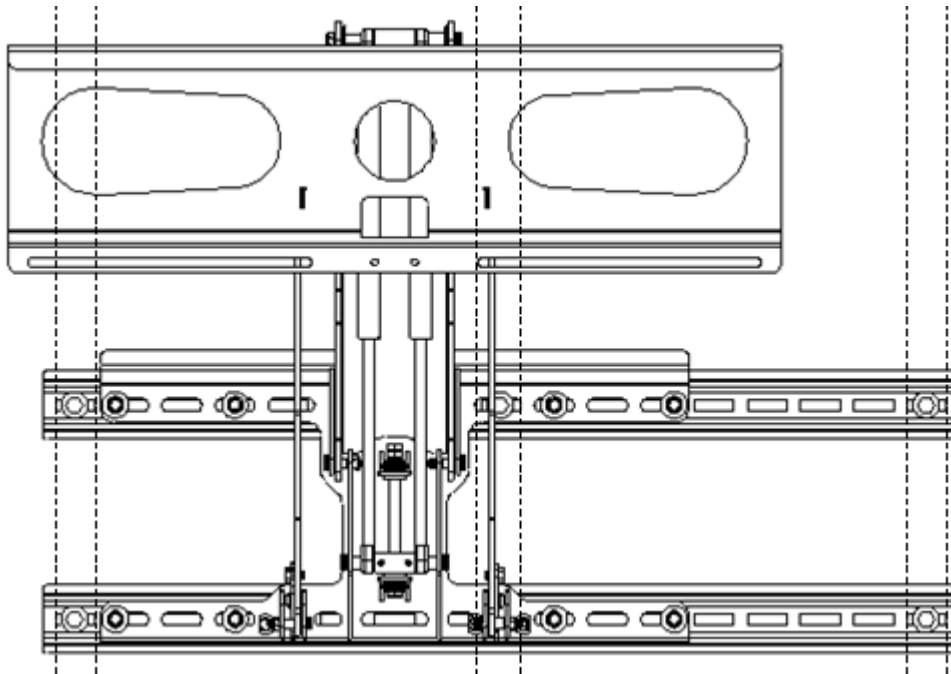

Figure 3 Down and Out Mount Offset On Wall Support
13. Sometimes it may not be possible to get all 3 lag screws in the bottom row of the slots (this situation is shown in Figure 3). The bottom set of lag screws do not see nearly as much force as the top set, this means that using only 2 lag screws on the bottom will support the maximum load just fine. You need all 3 lag screws on the top though; do NOT skip a lag screw on the top.